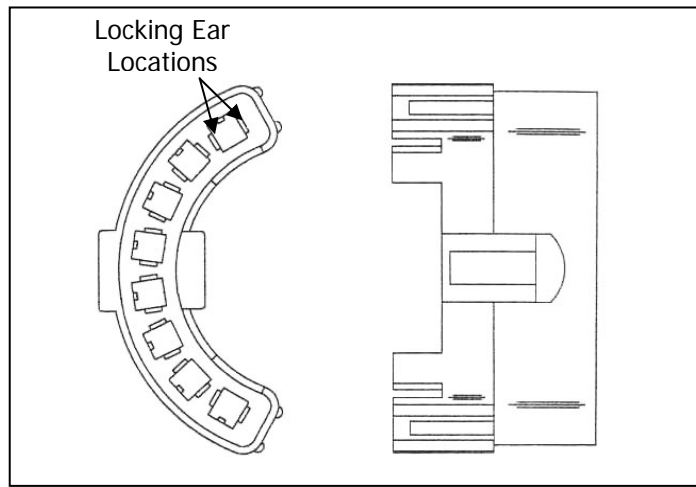

Figure 8.21 Turn Switch Connector Removal
8.5.4 You will need to remove and use the turn signal switch connector from the original harness on the new harness. With the face of the connector toward you locate the locking ear cutout on each side of the terminals (FIGURE 8.21). Using a small screwdriver or end of a paperclip push the locking ears in towards the sides of the terminal until the terminal is released and will pull out of the connector.